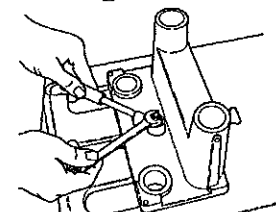

Fig.A-19
22. The carriage lock nut (16) is adjusted at the factory. However, if the carriage is not locking securely enough (or is too tight), you need to adjust the carriage lock nut (16) with a wrench, as shown in Fig.A-19.